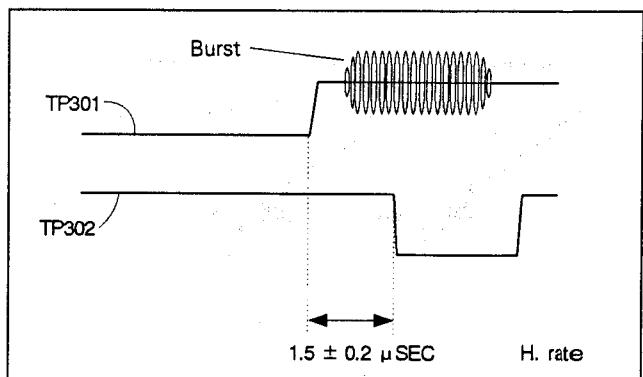

Fig. 3-5-3 Phase of clamping pulse
1. Observe the waveforms of TP301 and TP302 signals on the oscilloscope in the dual trace mode while adjusting TANC401 so that their phases are in the relation shown in Fig. 3-5-3.